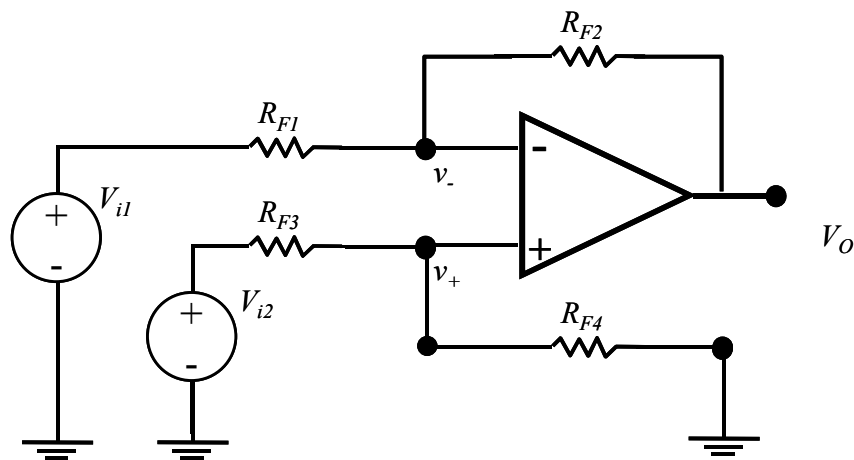

Figure 1. The Operational Differential Amplifier
- Lets examine the Differential Amplifier circuit, shown in Figure 1.